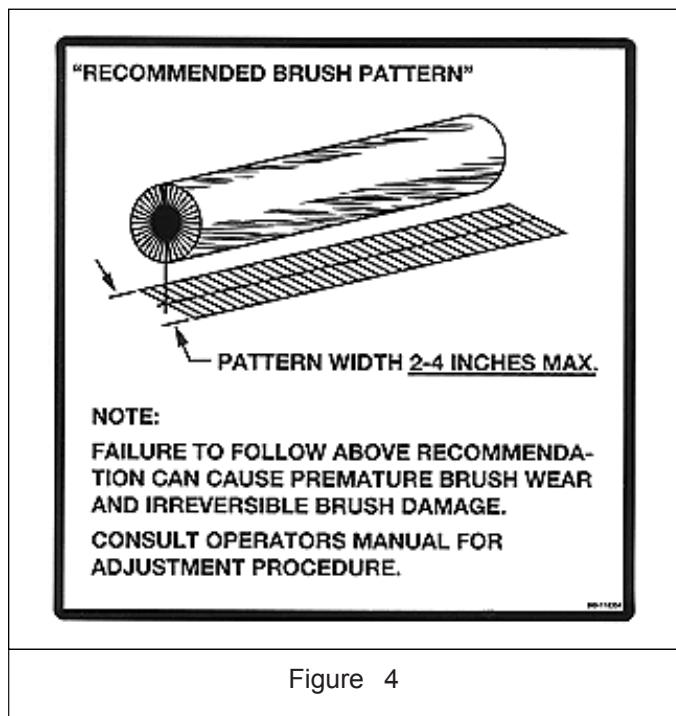

Figure 4
- With the unit on a flat level surface, run the unit for about 30 seconds in the down position while stationary. Stop the broom and back the unit away. The 'cleaned' (contact patch) should be 2"-4" wide, front to rear, for the entire length of the broom. See Figure 4.